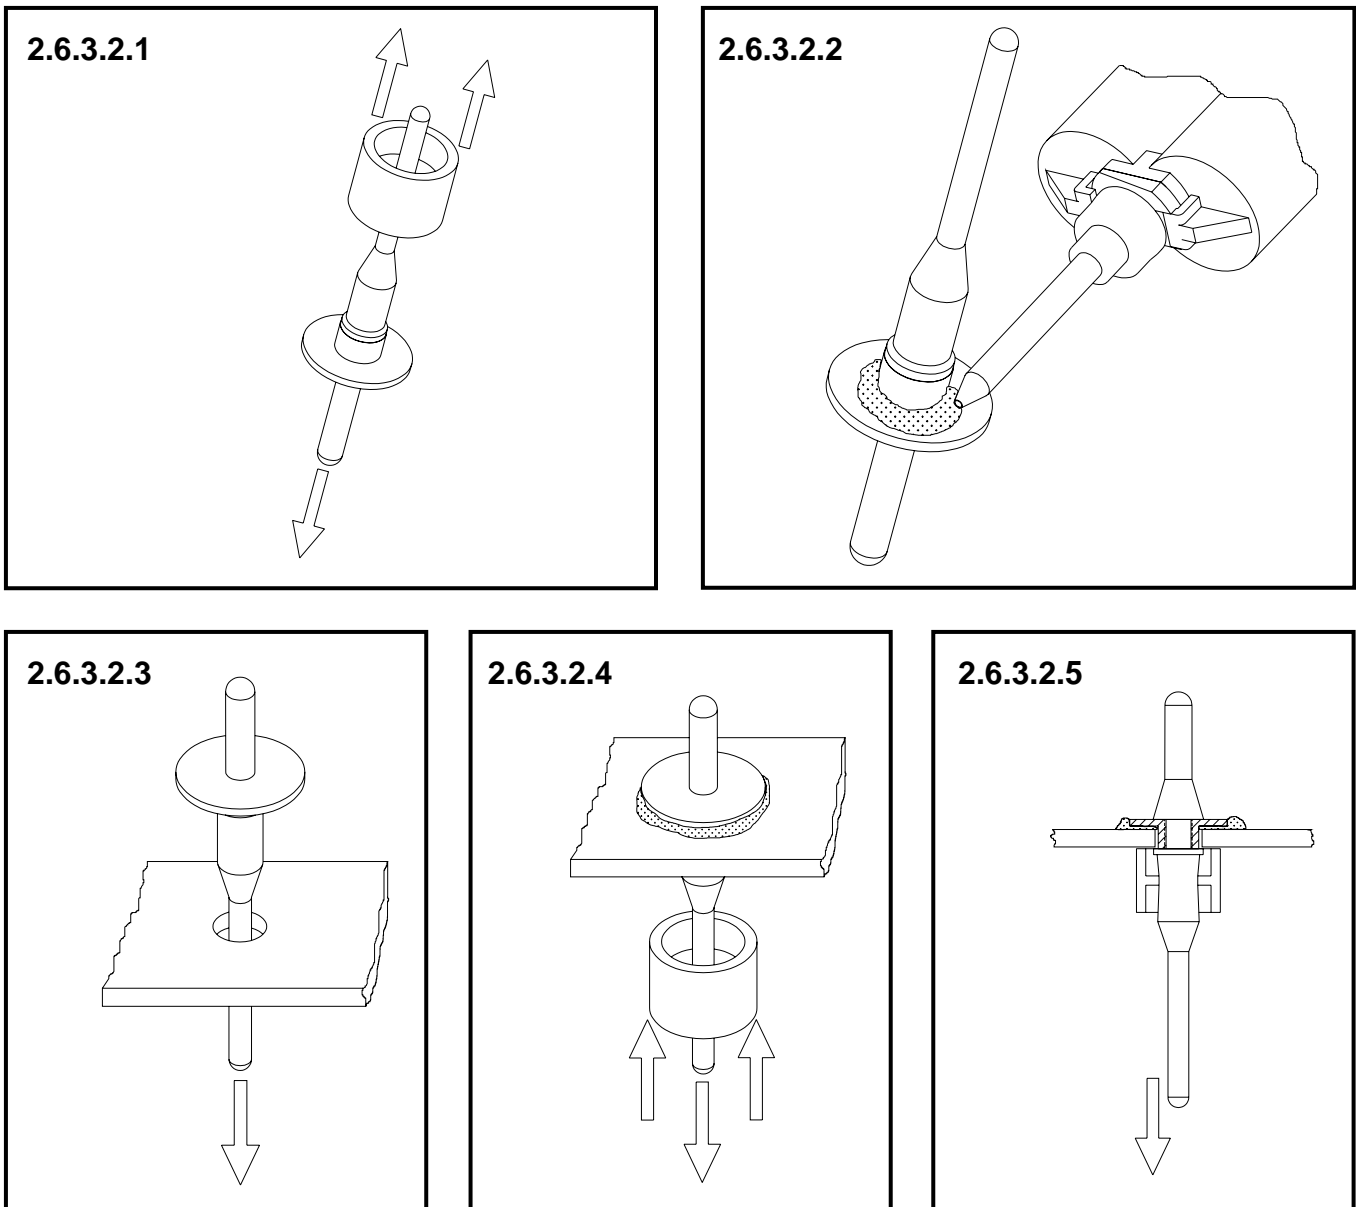

FIGURE 9. PROCEDURE FOR ATTACHMENT OF CLICK BOND BUSHING
2.6.3.2 Bushings – Elastic Pressure Application Fixture (PAF) type. Figure 9 indicates the sequential steps required to install this type bushing.